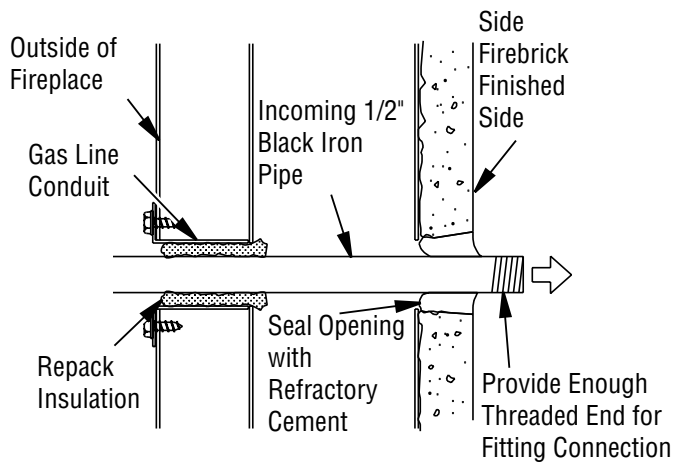

Figure 38 - Gas Line Installation
3. Run a 1/2" black iron gas line into fireplace through the rear at gas line conduit sleeve (if using a raised platform, add height). Provide sufficient gas line into fireplace chamber for fitting connection (see Figure 38, page 19).